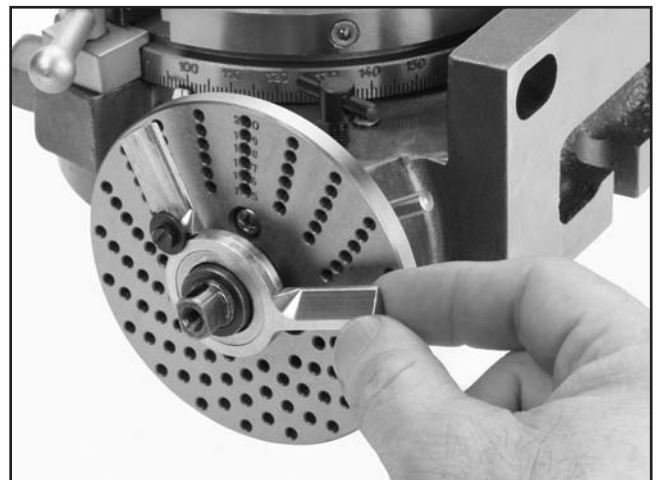

Figure 14. Installing dividing plate.
4. Place the sector arm assembly over the shaft **Figure 14**).